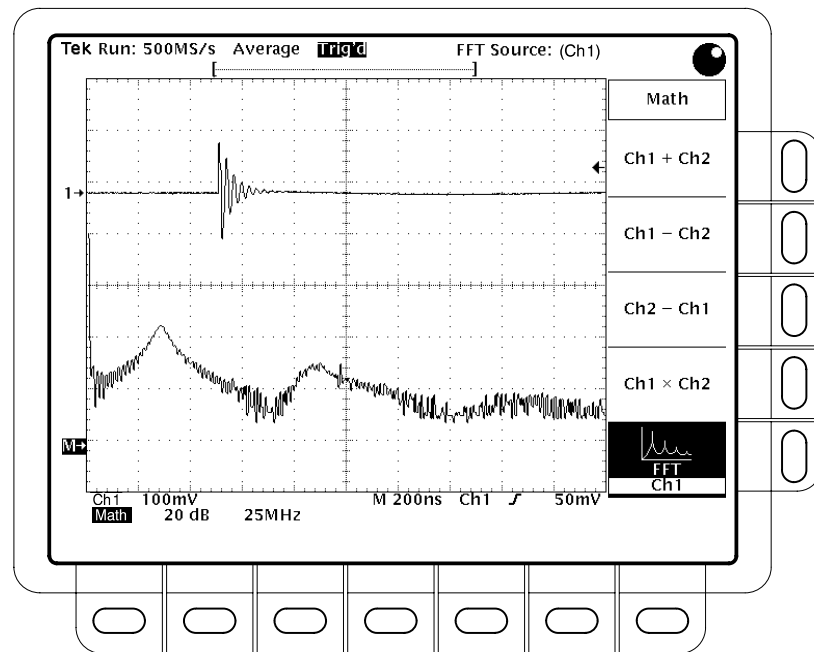

Figure 3–22: Define FFT waveform menu
4. Press the FFT side-menu button to select the FFT waveform. To select a different source channel, press the FFT side-menu button repeatedly. See Figure 3–22.